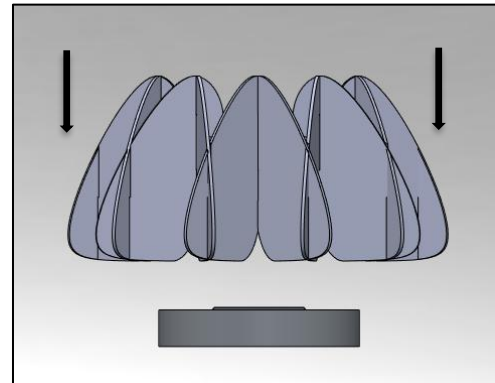

FIG. 15 – ACOUSTIC PANELS INSTALLATION
3. Once all panels are placed onto the support ring, the next step is to align the cutout on the inner ring with the hanging system holes of the fixture. After alignment, carefully place the panels' bottom lip onto the cirque lighting fixture, ensuring a secure and proper fit (as shown below in FIG. 15).